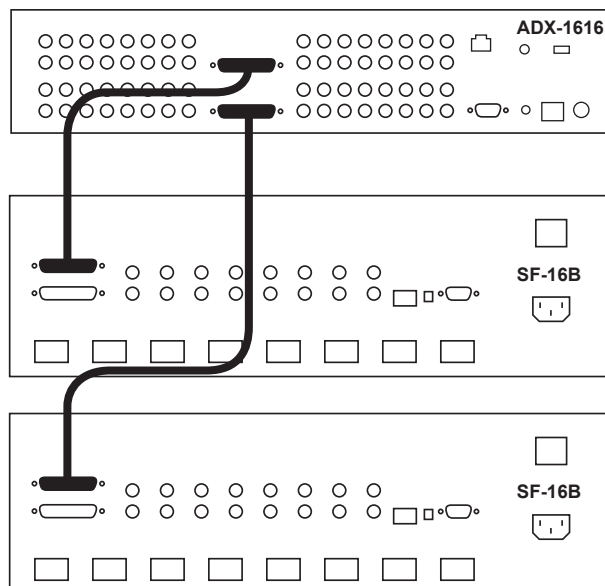
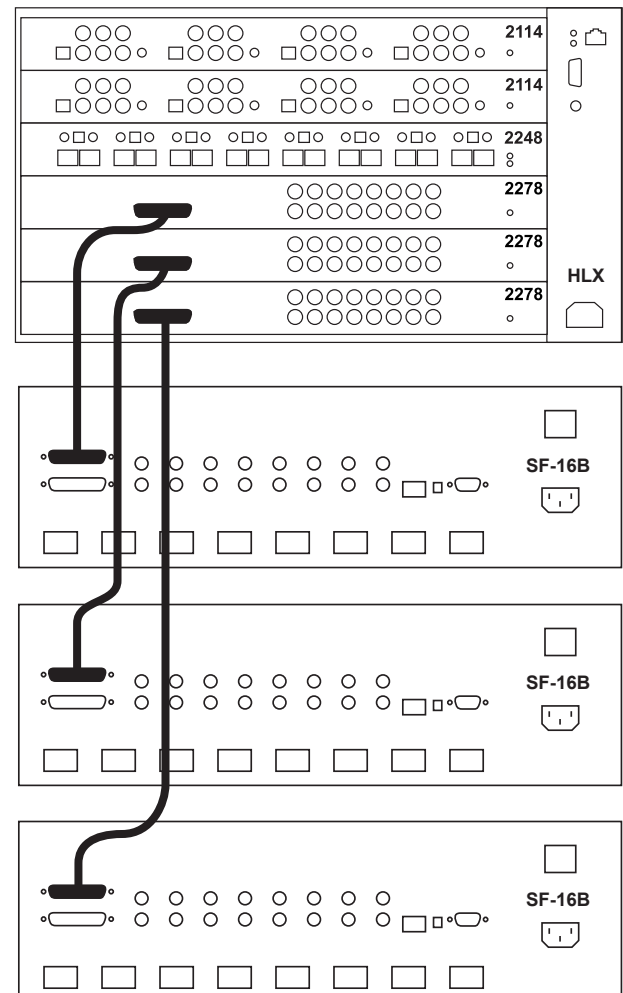

Figure 4
Figure 5
2. Input from an Audio Authority audio matrix: For installations where the SF-16B is serving as an amplifier for Audio Authority audio matrix preamplifiers such as the ADX-0808, ADX-1616 (Figure 4) or the HLX with 2278 audio output card (Figure 5).